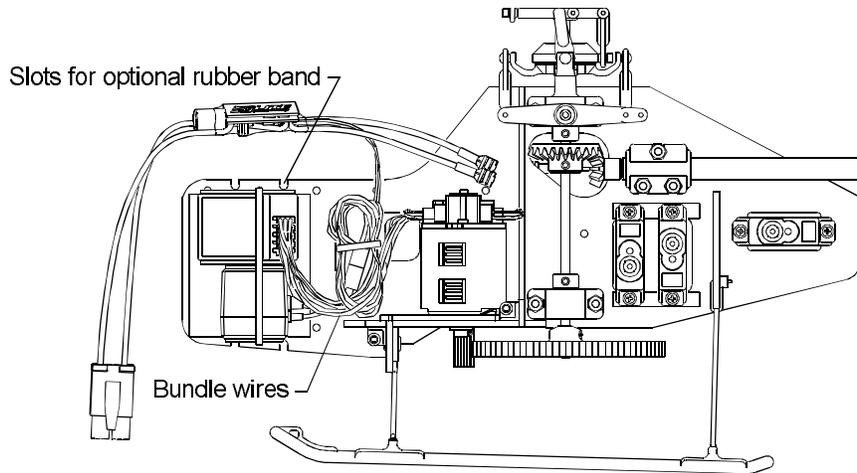

Figure 12-7.
- ❑ 6. Mount three servos to the crutch as shown in Fig. 12-2. Make sure the servos are properly oriented. The left/right cyclic servo wires should point down, the fore/aft cyclic servo wires should point up, and the tail rotor servo wires should point forward (review Fig. 5-3 and Fig. 12-7 if necessary).